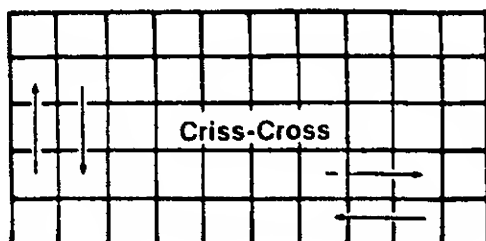

FIGURE 16.
- b. If you are not going to remove grass clippings, a mowing pattern is of no concern. However, you should criss-cross or generously overlap each pass to avoid missed spots. See figure 16.